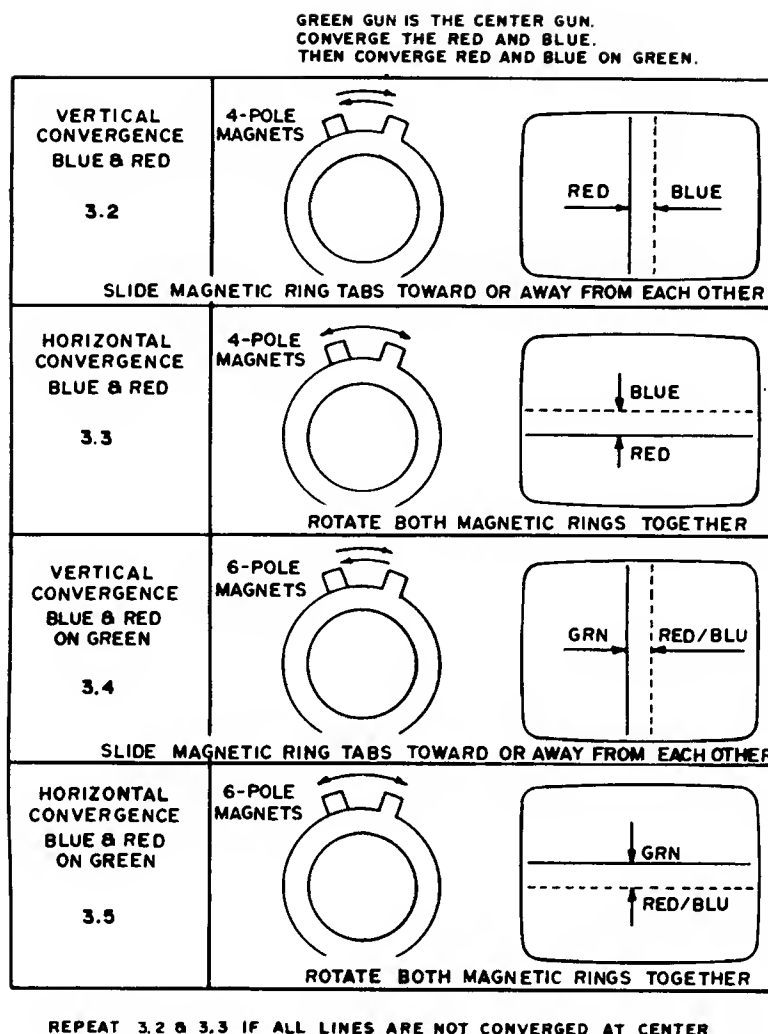
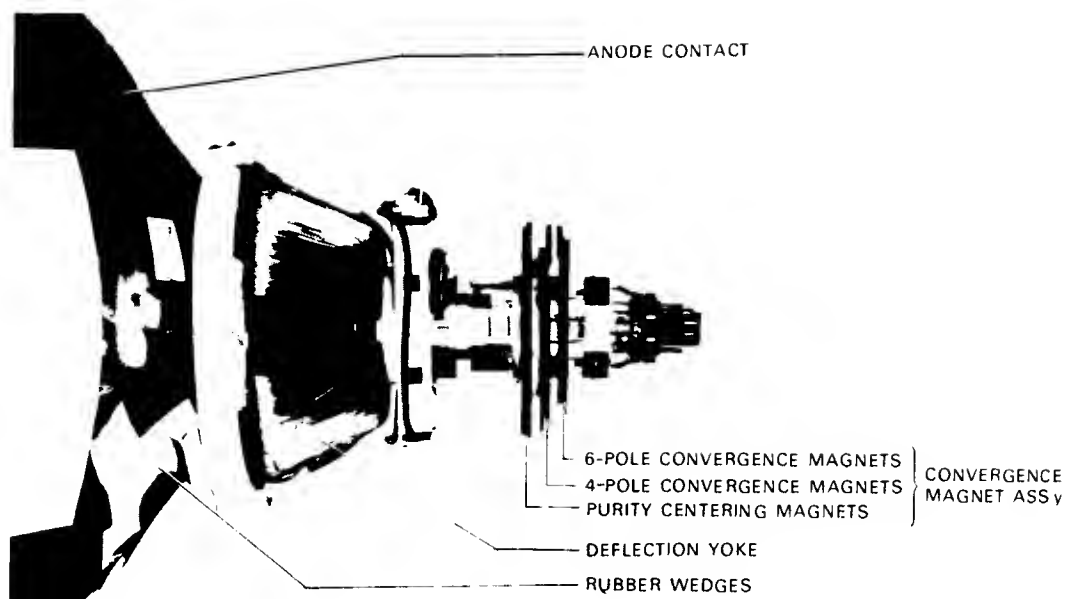

Figure 5
Figure 6
- 3.2 A pair of 4-pole convergence magnets is provided to converge the blue and red beams (see Figure 6). When the pole opens to the left and right 45° symmetrically, the magnetic field is maximized. Red and blue beams move to the left and right (see Figure 5). Vary the angle between the tabs to adjust the convergence of red and blue vertical lines.
- 3.4 A pair of 6-pole convergence magnets is provided to converge the magenta (red + blue) to the green beams (see Figure 6). When the pole opens to the left and right 30° symmetrically, the magnetic field is maximized. Red and blue beams both move to the left and right (see Figure 5). Vary the opening angle to adjust the convergence of magenta to green vertical lines.